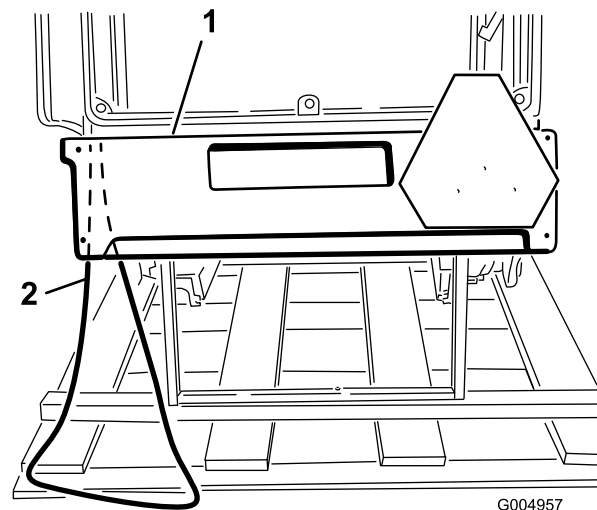

Figure 10
1. To gain access to the heater supply hoses, remove the screws securing the rear of the side panels and the back panel to the cab assembly and remove the back panel (Figure 10). Do not remove the side panels.
2. On the left rear corner of the cab assembly, locate the label on the hose marked "Pressure" (Figure 10).